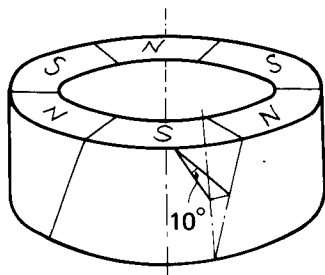

Fig. 2
5. The inner surface of the rotor magnet possesses 6 magnetic poles. As shown in Fig. 2, these are tilted by 10° relative to the vertical axis.